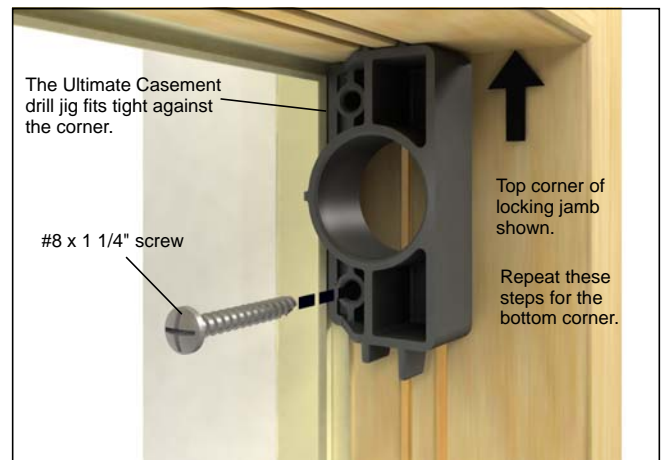
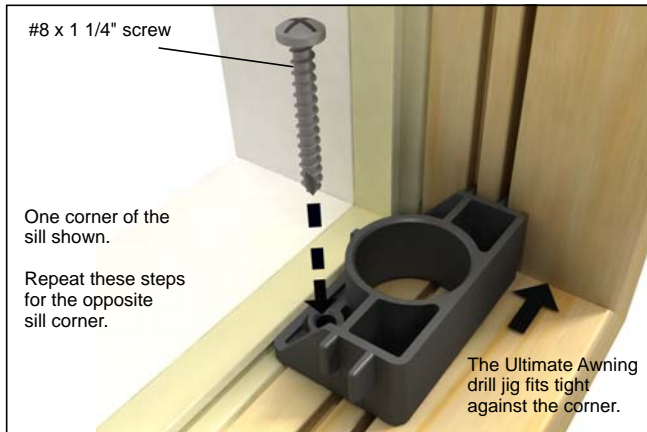

Figure 13
Figure 14
2. Drill a pilot hole in one hole of the jig and install the provided #8 x 1 1/4" fastener to secure the jig in place. See figure 13 for Casement and figure 14 for Awning.